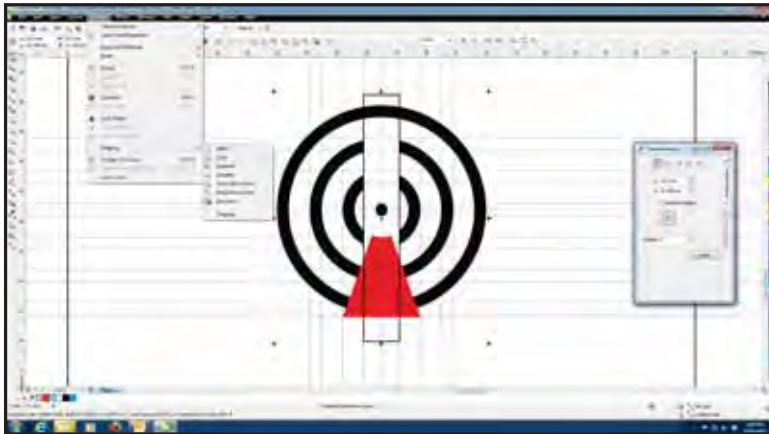

Fig.16
- 2. Repeat the trim on all three circles, (Not the tower). See Fig 16.